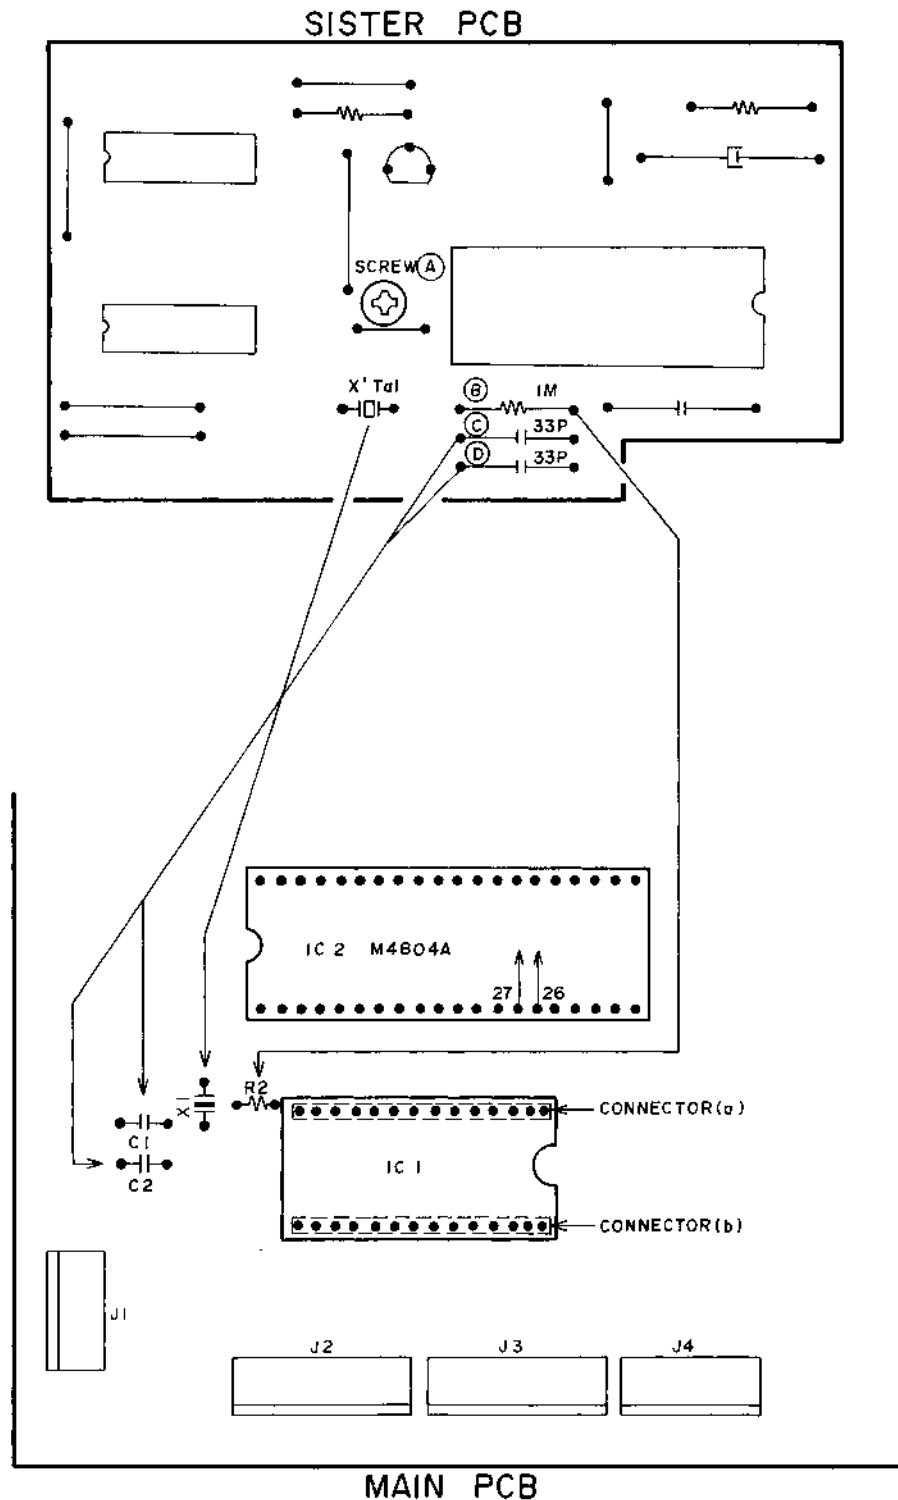

Fig. 5-1
2. When the IC1 MAB8441PT012 and Sister Board are used, replace it to the MAB8441PT078 as shown in Fig. 5-1.
- ① Remove the Sister PC Board fixing screw (A).
- ② Disconnect the wires on the connector (a) and (b), and remove the wires on the IC2 pin ②⑥ and ②⑦.
- ③ Remove the X'Tal on the Sister PC Board, and set the place of "X1" on the Main PC Board.
- ④ Remove the resistor (B) (1M Ω) on the Sister PC Board, and set the place of "R2" on the Main PC Board.
- ⑤ Remove the capacitor (C) and (D) (33P) on the Sister PC Board, and set the place of "C1" and "C2" on the Main PC Board.
- ⑥ Remove the connector (a) and (b), set the IC1 (MAB8441PT708).